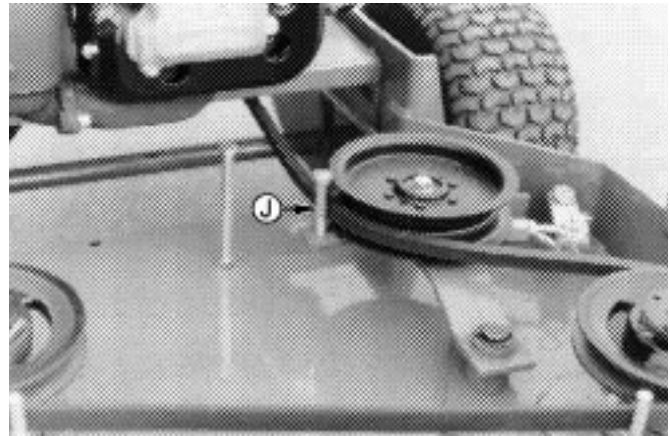

Figure 7
- Remove the cap screw which serves as a belt guide and is mounted in the idler pulley arm. (Item J, Figure 7.)